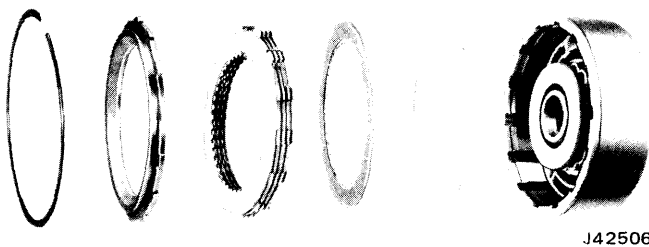

Fig. 7-81 Direct Clutch Housing Assembly
(4) Remove backing plate, composition-faced and steel clutch plates (fig. 7-81).
(5) Using Clutch Spring Compressor Tool J-25149 and arbor press, compress spring retainer and remove snap ring attaching spring retainer to direct clutch housing.
(10) Install backing plate in clutch housing and install retaining snap ring (fig. 7-81).
(11) Install rollers in cage by compressing energizing spring with forefinger and inserting rollers from outer side of cage.